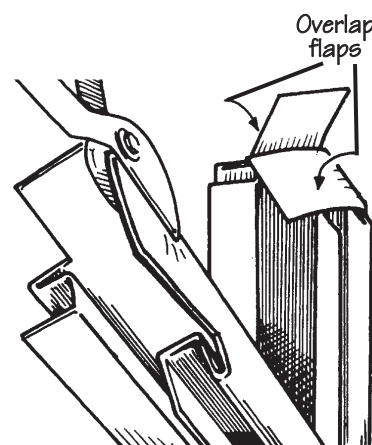

Figure 80.
- Corner posts on homes with a second-story overhang need to be capped by making the cuts shown (Fig. 80). Fold the flaps created over each other as indicated.